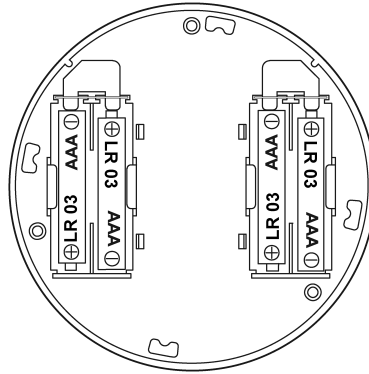

Figure 5: Insert batteries
- Insert batteries with correct polarity (Figure 5).